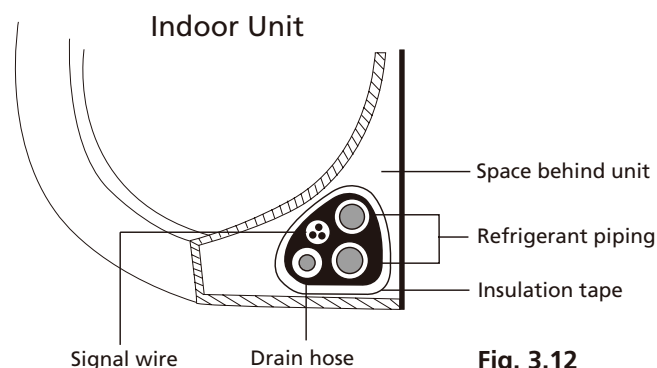

Fig. 3.12
1. Bundle the drain hose, refrigerant pipes, and signal cable according to **Fig. 3.12**.
3. Using insulation tape, wrap the signal wire, refrigerant pipes, and drain hose tightly together. Double-check that all items are bundled in accordance with **Fig. 3.12**